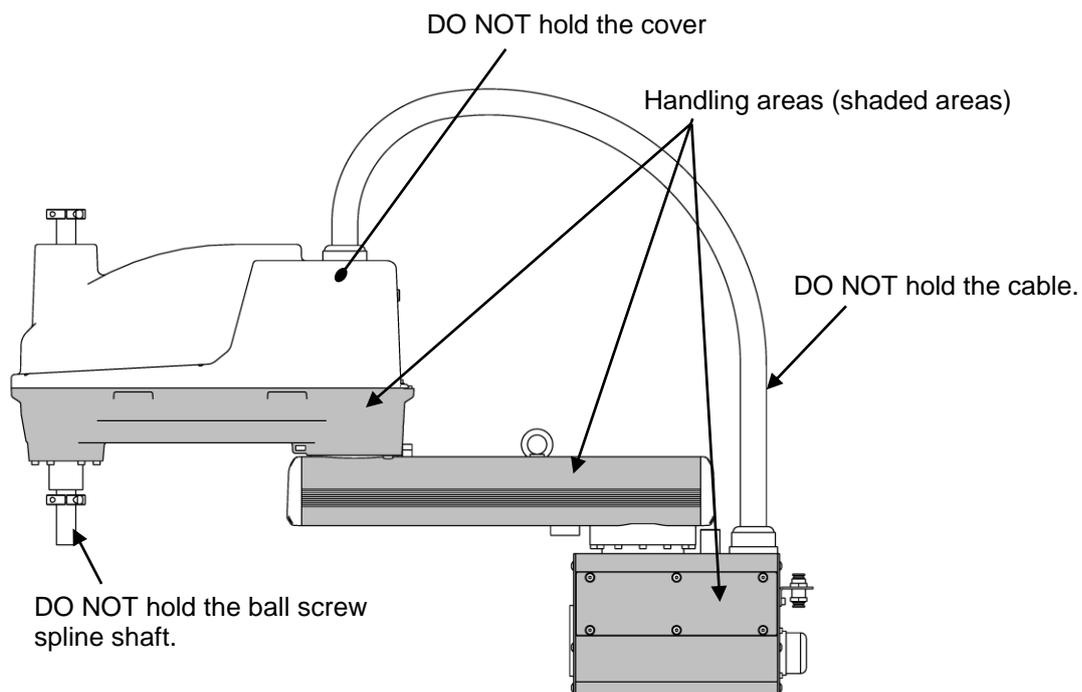

Fig. 4.7 Robot Handling Locations (KHL-500, KHL-600 and KHL-700)
- When lifting up the robot by workers, hold the locations (shaded areas) by hands as shown in Fig. 4.7. Holding the arm 2 cover, the cable and the ball screw spline shaft will apply excess force, possibly causing failure.
- The work should be performed by two (2) or more workers.